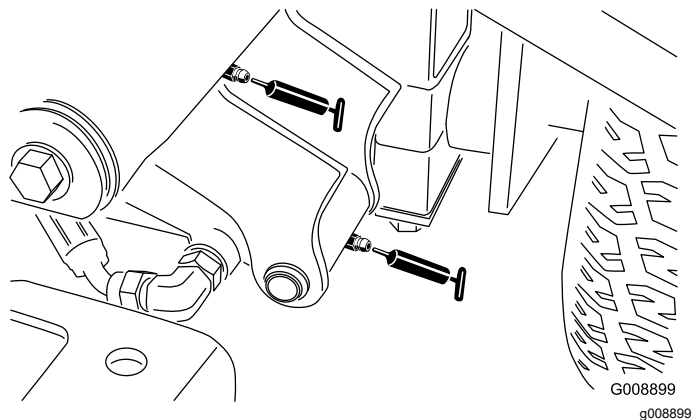

Figure 61
- Left front lift arm pivot and lift cylinder (2) (Figure 61)